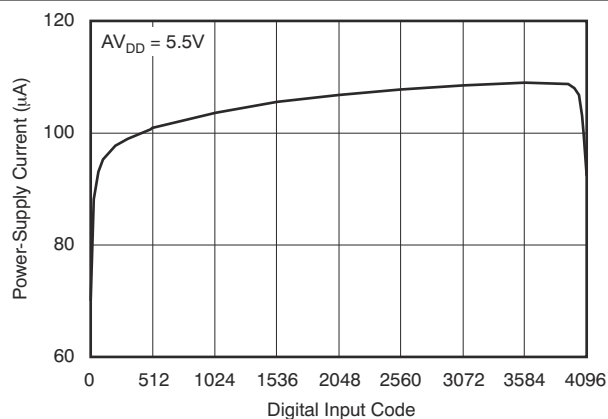

图 7-16. Power-Supply Current vs Digital Input Code
(6) For more details, see Figure 7-16 and Figure 7-58.